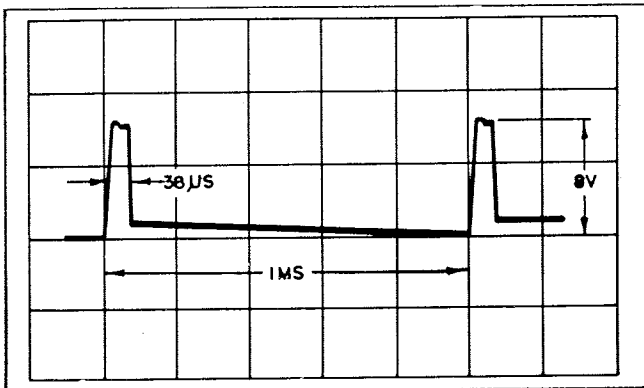

Figure 6.20 - Q13, Collector Waveform
n. Reconnect oscilloscope to collector of 1 KC multivibrator stage Q13 (or bottom of R43). The observed waveform should resemble the one shown in figure 6.20.
f. Connect oscilloscope to the junction of R42 and the collector of Q13. Set R38 to the center of the range which results in a waveform with time between pulses equal to and amplitude close to those shown in figure 6.20.